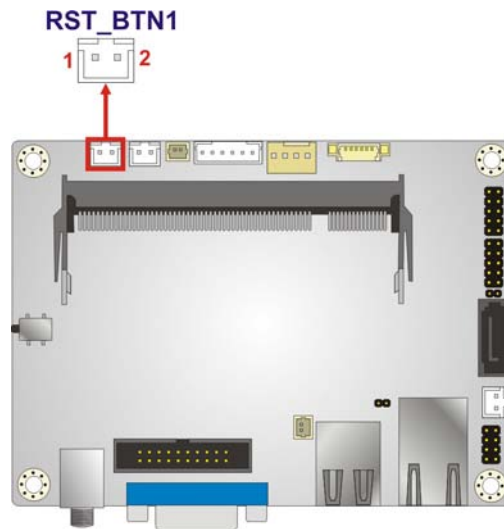

Figure 4-15: Reset Button Connector Location
- CN Location: See **Figure 4-15**